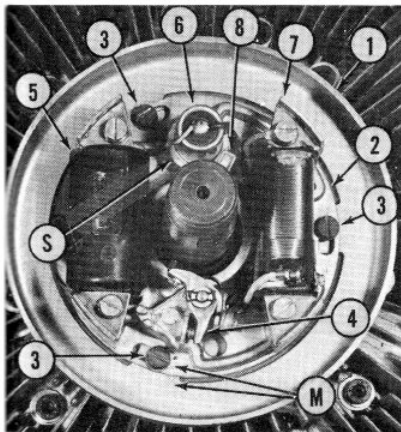
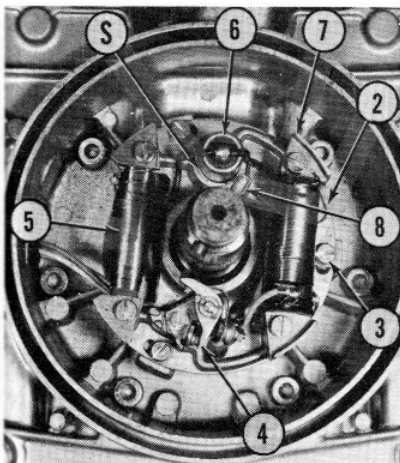

Fig. 10—Assembled view of high tension magneto unit with flywheel removed.
Fig. 11—Installed view of energy transfer magneto plate with flywheel removed, showing component parts. Refer to Fig. 10 for parts identification.
**CONDENSER.** A defective condenser can cause point failure or complete failure of engine to start and run. On many units, condenser is pressed into armature plate and leads are soldered. Use an iron and a minimum amount of heat when making the connections. Condenser should not be removed unless renewal is indicated. If condenser is to be renewed, armature plate must be removed and condenser pressed out from bottom. Condenser is swaged or staked in place (S—Fig. 10) when installed. If burrs remain from previous staking, remove with a scraper or file. Press in new condenser working from top (flywheel) side of plate. If condenser is not tight after installation, stake in three or four places. Use care not to crush the case when condenser is installed.
**IGNITION COIL.** On models with a conventional flywheel magneto system the ignition coil (5—Fig. 10) is mounted on the armature plate. On models with an energy transfer system, the armature plate contains only an ignition generating coil (5—Fig. 11) and the ignition coil (or coils) is externally mounted. Plug-in connectors are used; refer to fundamentals section for typical wiring diagrams. If testing equipment is not available, output can be checked by holding spark plug wire about 1/4-inch away from block while turning engine with a starter. If no spark occurs or if spark is weak or yellow, renewal of ignition coil may be indicated.